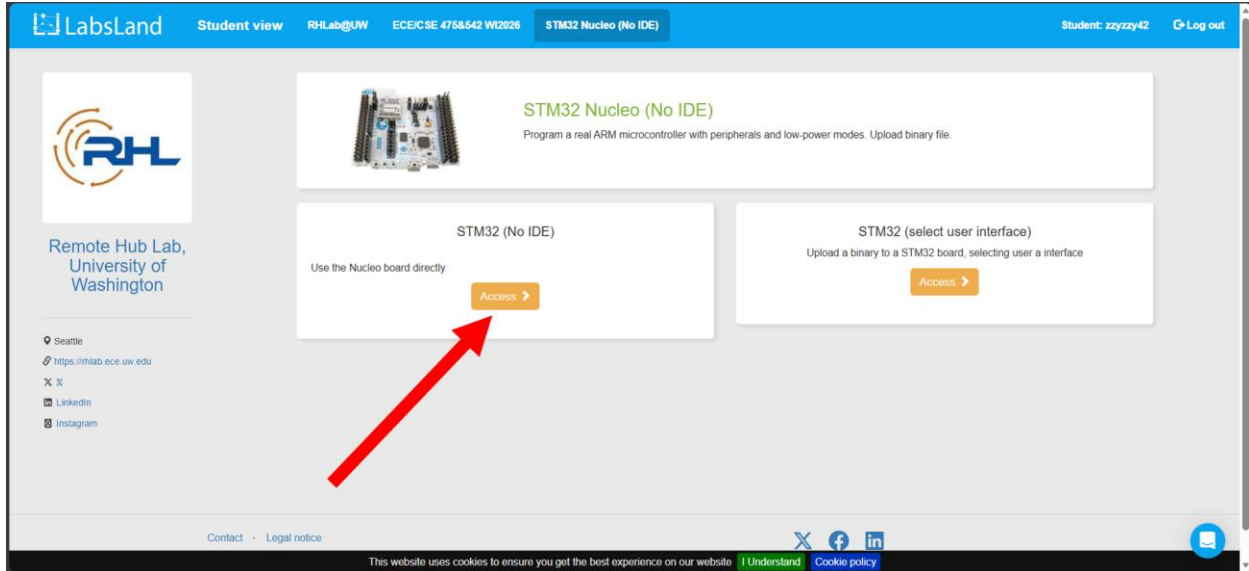

Figure 5
5. For this assignment, we only need to use the basic STM32 remote lab. Click the orange icon indicated by the red arrow in Figure 5.